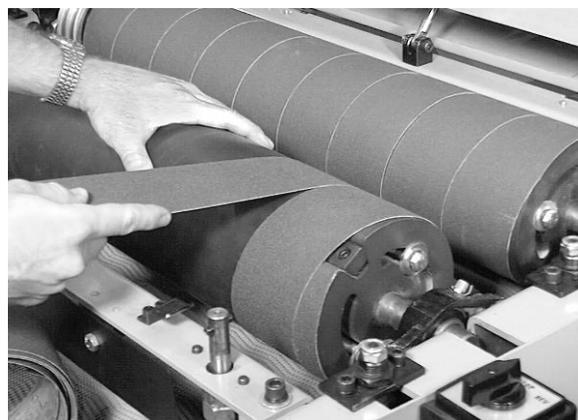

Figure 11
6. Begin wrapping the strip around the drum, keeping it taut as you go. The tapered cut of the strip should follow the right edge of the drum. Continue to wrap the abrasive in a clockwise spiral fashion by rotating the drum with your left hand and guiding the strip with your right hand (Fig. 11). Successive windings of the strip should be flush with previous windings without any overlap.